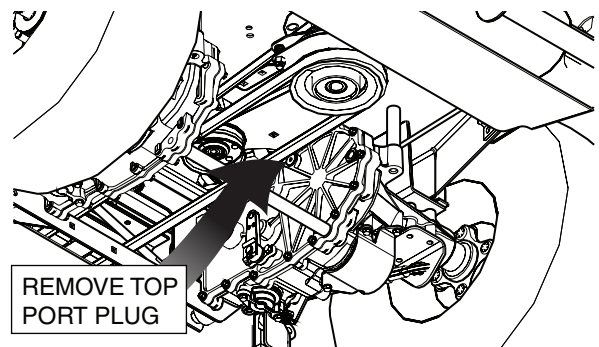

Figure 7-2. Top Port Plug Location
7. Remove the side top port plug from both axles before filling with oil. See Figure 7-2.
16. After the purge process is complete, remove the side top port plug from both transaxles to check the oil level. See Figure 7-2. If necessary, fill oil until the oil just appears at the bottom of each axle top port.